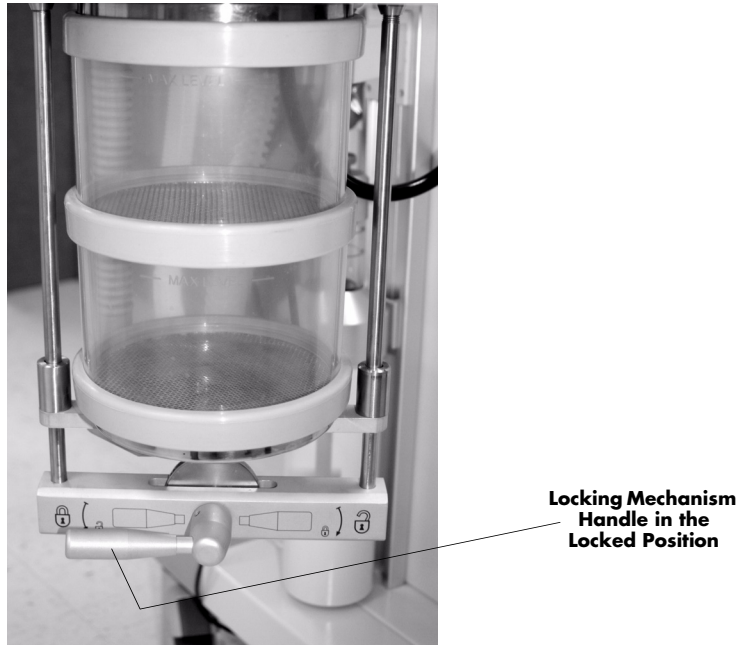

FIGURE 3-20 Absorber Canisters, Locked
6. While noting the previous **WARNING**, add new pre-pak or loose fill absorbent to the absorber canisters. Re-install the absorber canisters into the assembly. Rotate the locking mechanism handle clockwise into the locked position as shown in FIGURE 3-20.